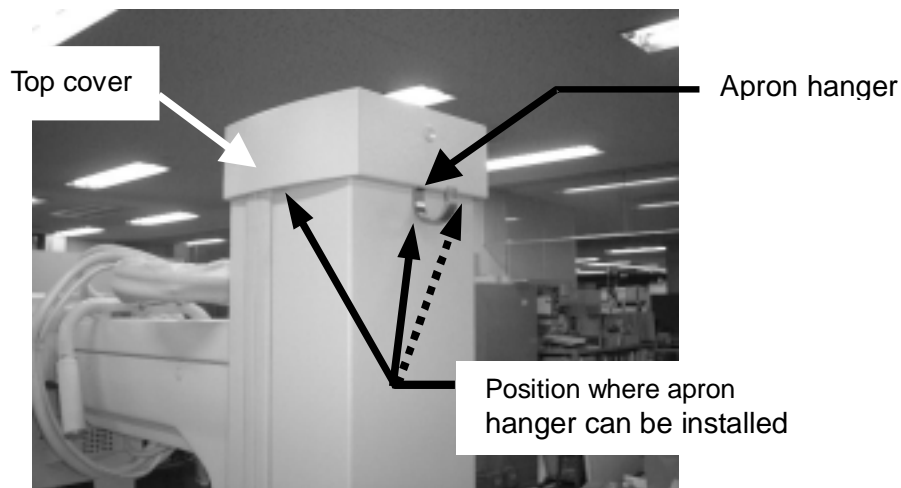

Fig. 4-82 Apron hanger
2. Remove the screw which installs the apron hanger, and install the apron hanger in the arbitrary position shown in Fig. 4-82.